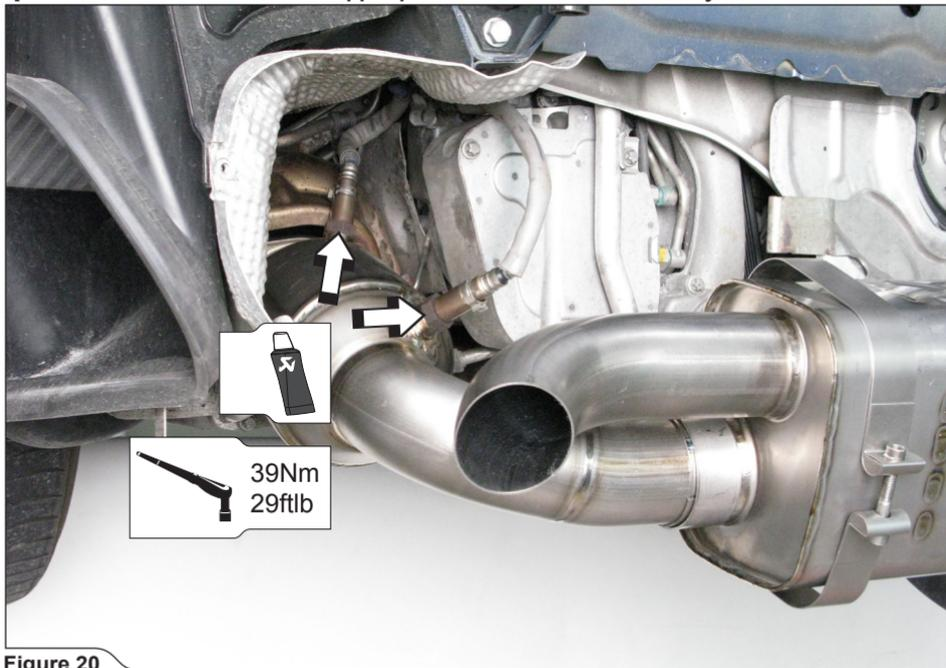

Figure 20
7. **For Slip-On with optional Link Pipes only:** bring the assembled muffler/link pipes near the final position on the vehicle and tighten the lambda sensors (**Figure 20**). Repeat the process on both sides of the vehicle.